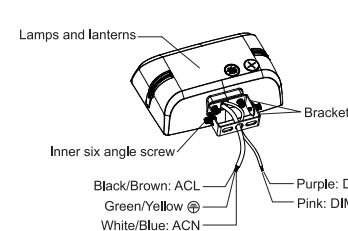

figure 4.3
Step 2: Finish the wire connection according to the right mode of connection (pay attention to positive wire, negative wire, and ground wire).(figure 4.3)